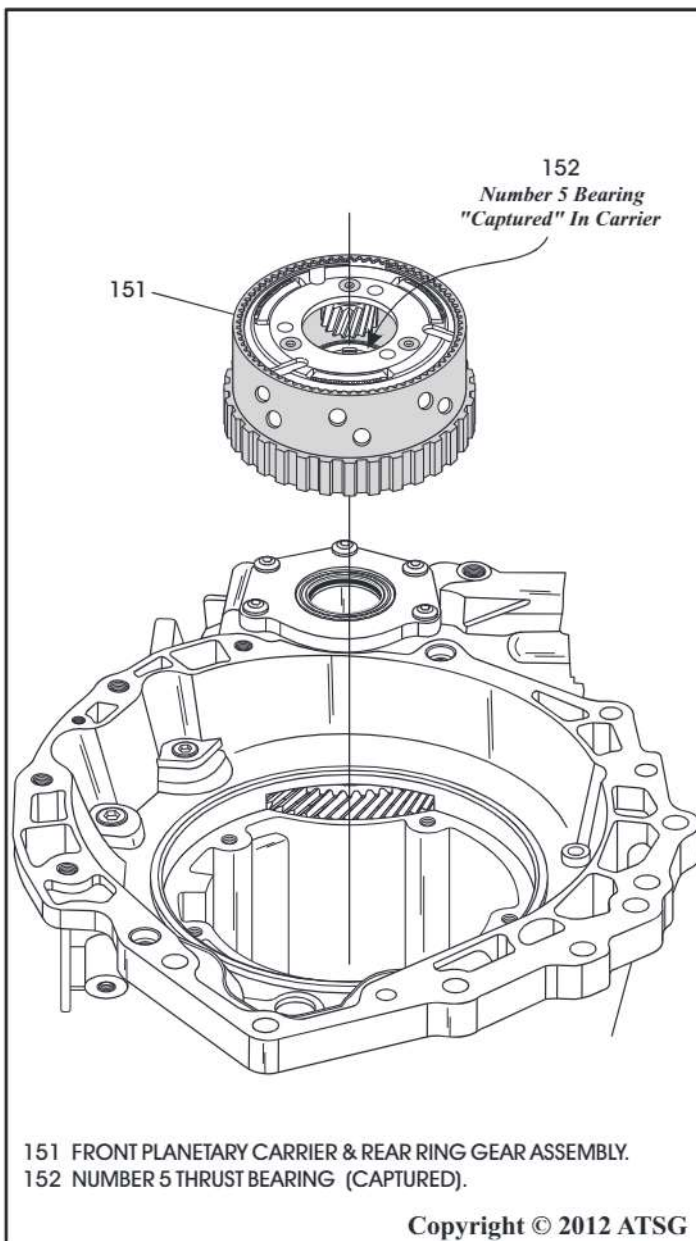

Figure 67
51. Remove the front planetary carrier and rear ring gear assembly, as shown in Figure 67.